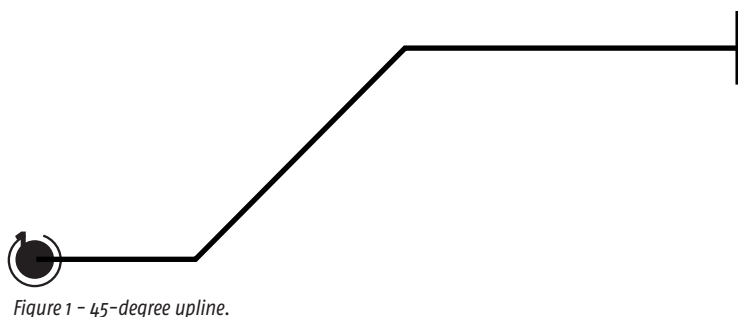

Figure 1 - 45-degree upline.
**The 45-DEGREE UPLINE:** The 45-degree upline and downline require ground coaching. (Figure 1) Remember, you fly for the judges, not yourself. Flying them well depends on the pilot's eye position.